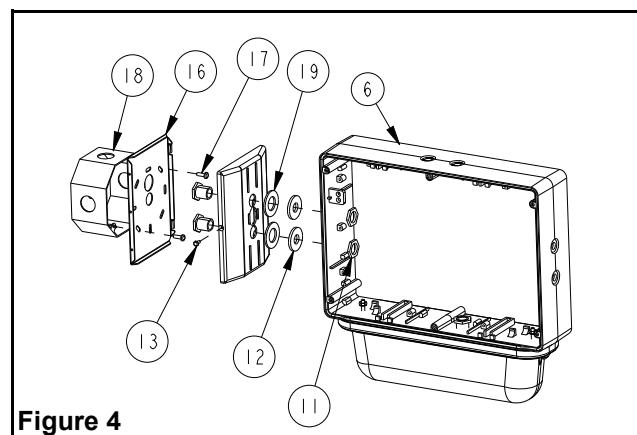

Figure 4
- h. Determine which holes in the exit frame will be used for mounting (see figures 1,2 & 4). Support frame by two blocks of wood, maximum one inch apart. Strike knockouts with a hammer and screwdriver. Clear holes of burrs to allow proper assembly of nipple/wire assembly. Note: end mount installation is weatherproof but not certified Nema 4X (see figure 4).
- i. Secure canopy to the frame by threading the provided nipple/wire assembly through the canopy and frame. Make sure the gasket washers are between the canopy and frame, and that the locknuts(11) are inside the exit sign (see figure 4).